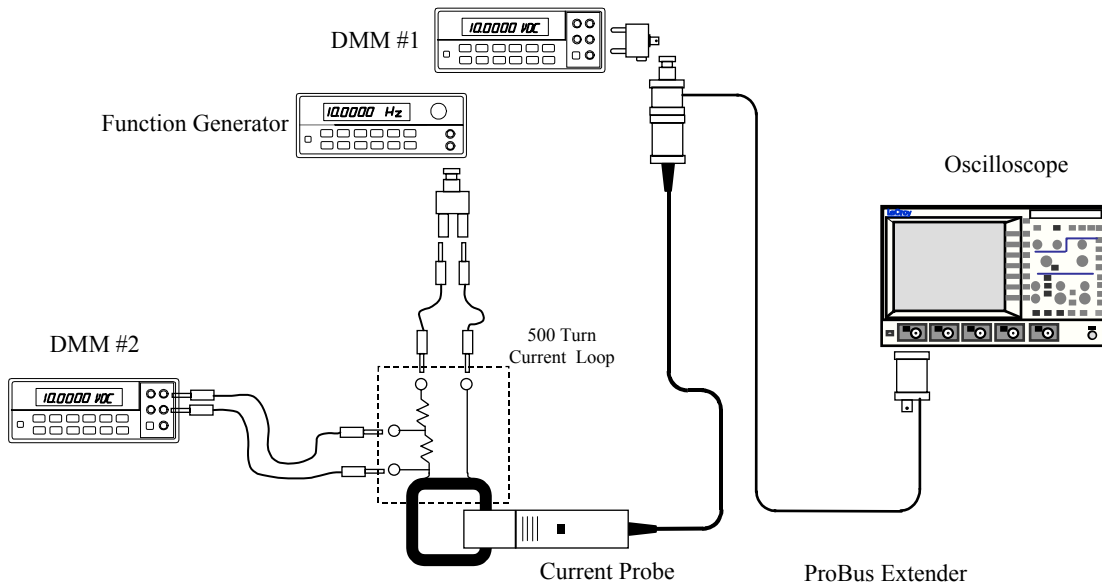

Figure 6-1. LF Accuracy Adjustment Set Up
3. Using banana patch cords, connect the 'V Source' and 'V Return' terminals of the 500 Turn Calibration Loop, to the output of the Function Generator using the BNC to Dual Banana plug adapter Output. (Refer to Figure 6-1)